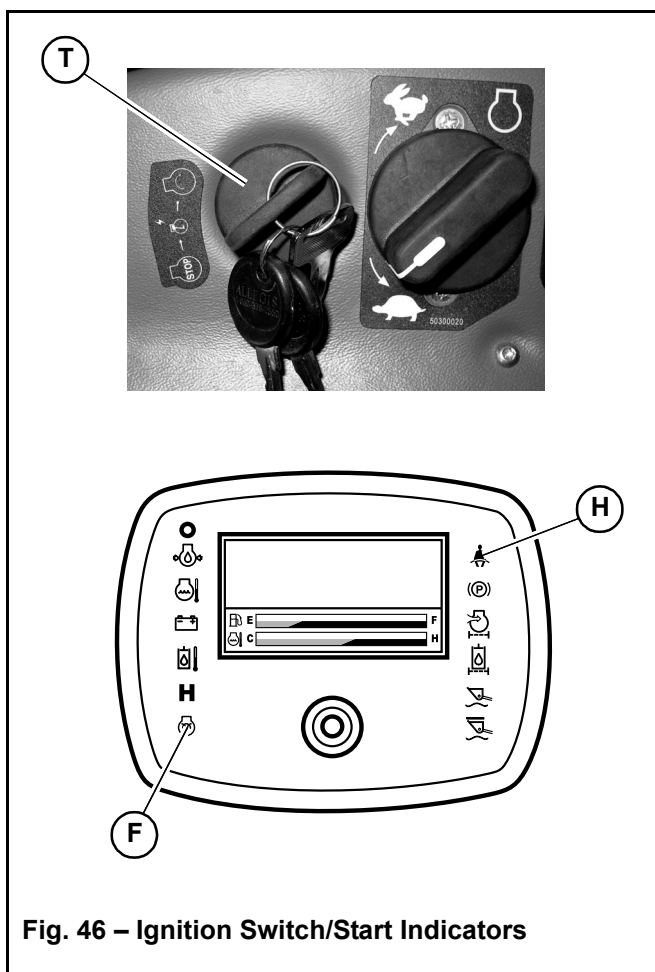

Fig. 46 – Ignition Switch/Start Indicators
**IMPORTANT:** The arm rests/safety bars must be lowered before the engine can be started. An engine error code (0) will display on the multi-function display if the ignition is switched to the start position when the arm rests/safety bars are in the raised position, the operator’s seat is not occupied or the cab door is not closed.
6. Insert the ignition key into the ignition switch (T, Fig 46) and turn the key clockwise to the first detent. Wait for the multi-purpose display to initialize completely. Indicators on the multi-function display should light up; a beeping tone will sound for a few moments as a reminder to fasten the seat belt. The battery voltage and pre-heat indicators might stay lit for 3-30 seconds.
1. Check that charge (F, Fig 46) indicator goes out after the engine starts.